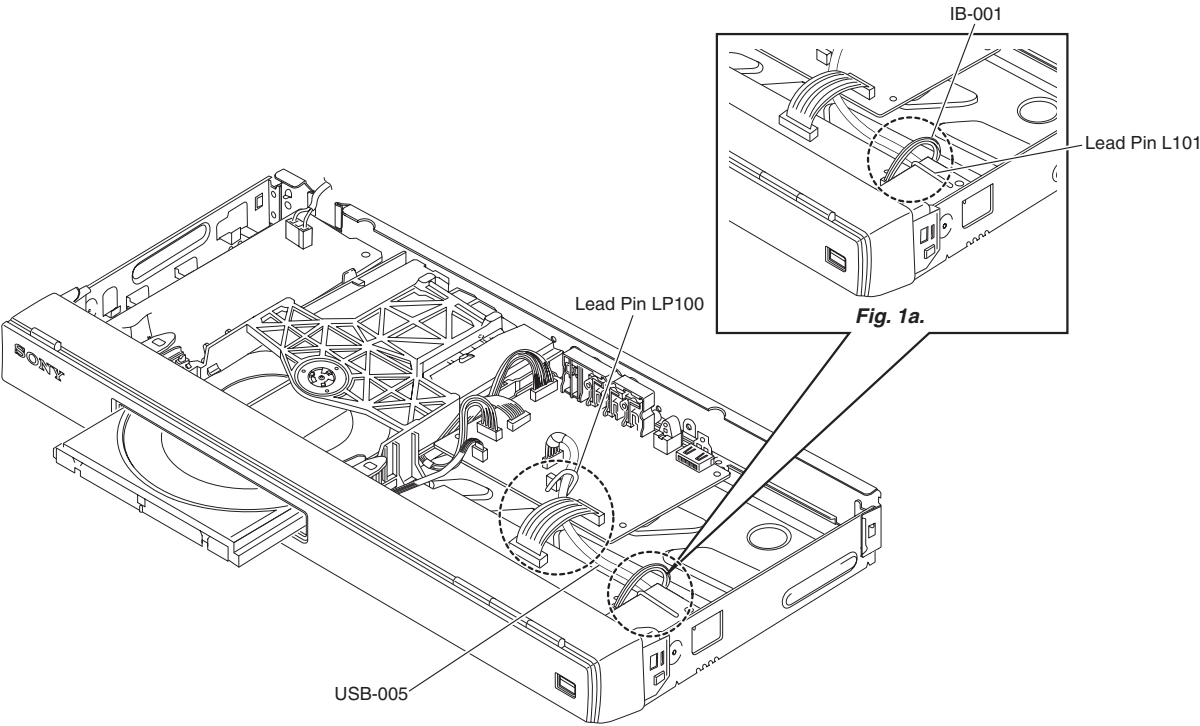

Fig. 1
- 1) Please ensure USB-005 dressing as shown in Fig. 1.